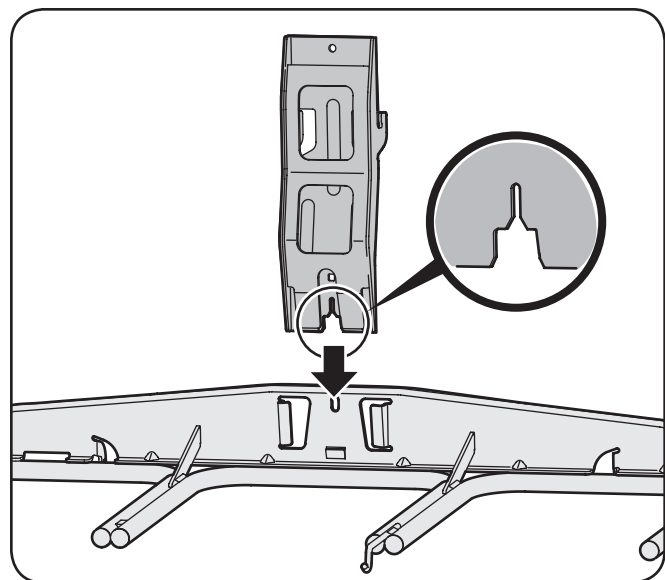
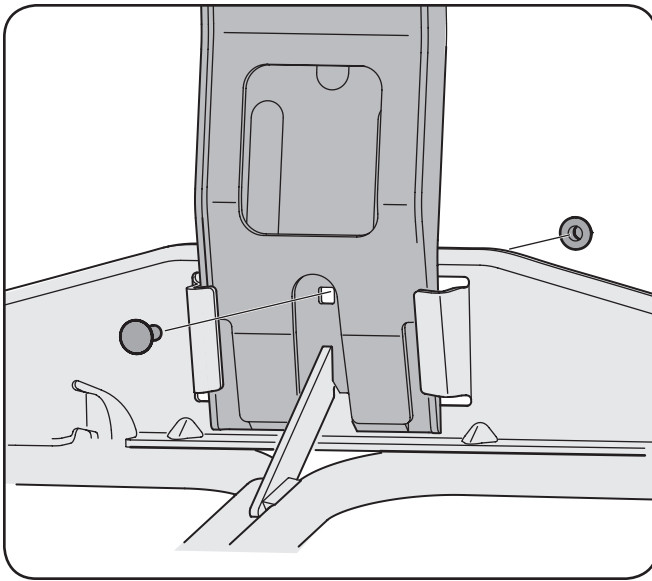

Figure 4-3
Figure 4-4
2. Insert the notched end of the vertical support bracket into the bag support assembly, as in Fig. 4-3, and secure with a 5/16-18 carriage bolt and 5/16-18 flange lock nut. See Fig. 4-4.